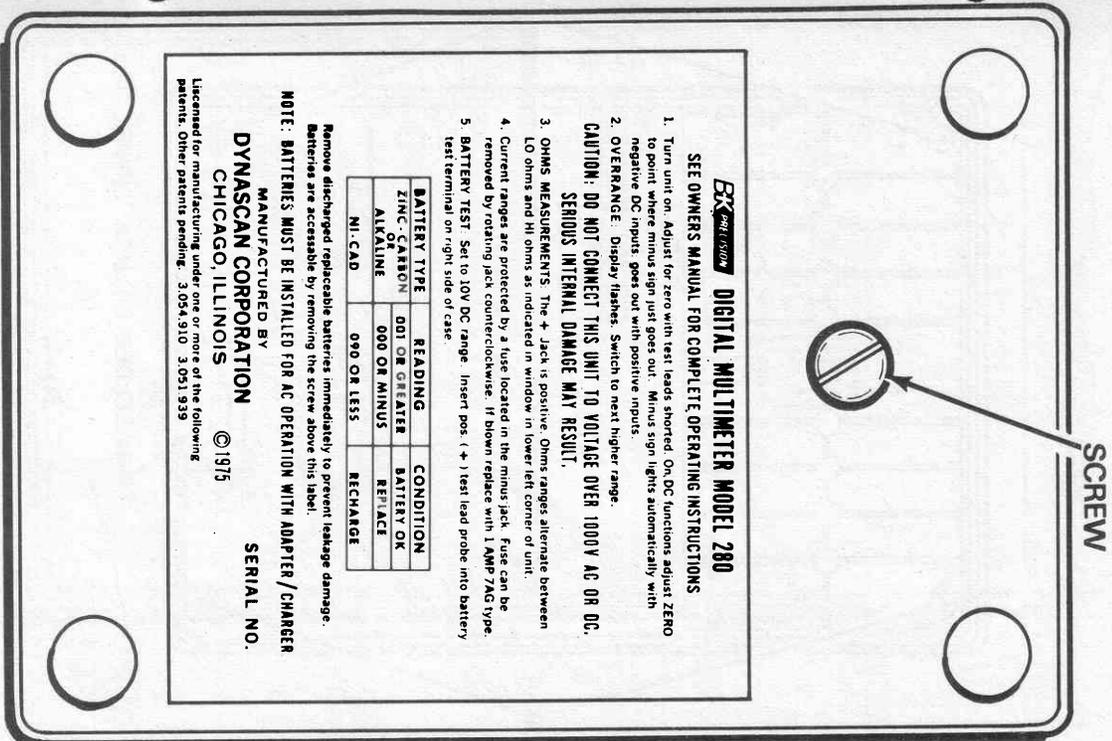
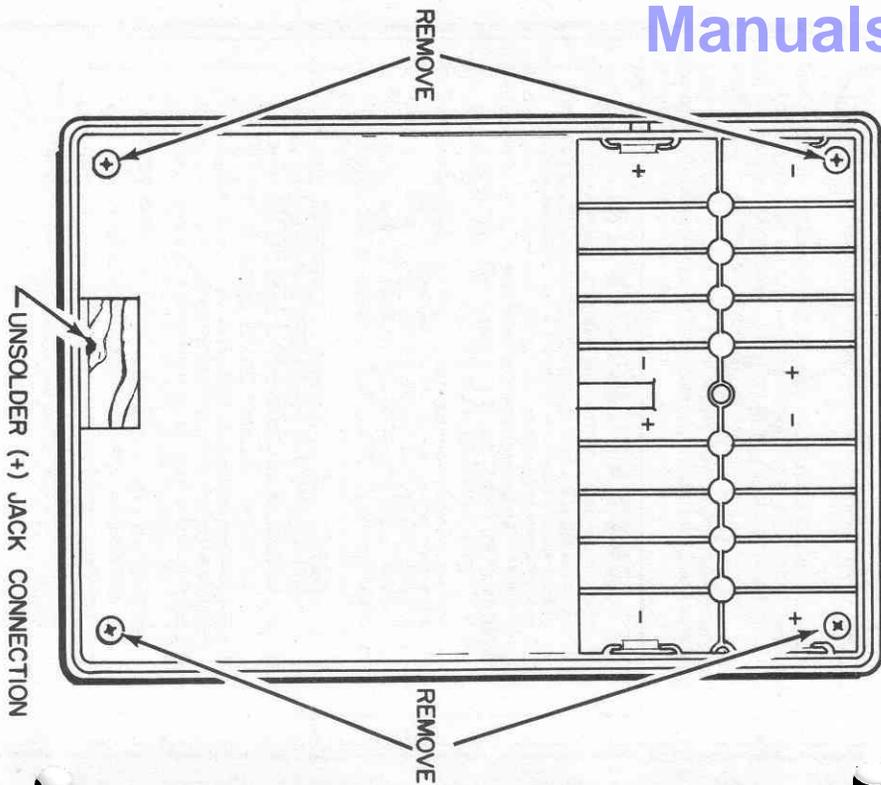

Fig. 3
Fig. 4.
- b. Replacement of batteries. Loosen the captive screw on the back cover (Fig. 3). Replace with "C" cells. Although carbon-zinc batteries can be used, alkaline or nickel cadmium (rechargeable) are recommended (see Maintenance Section for replacement battery type numbers). The battery polarity is marked in the battery holder. Replace cover and tighten screw.
The calibration is performed with the case open. To open the case, remove the battery cover by loosening the captive screw (see Fig. 3). Remove batteries and remove the four screws (Fig. 4). Unsolder the (+) jack from the edge of the P.C.B. as shown in Fig. 4. Solder a short wire to this point to serve as a temporary (+) input terminal during calibration. The top panel can now be removed from the main case, exposing the P.C. boards. Before proceeding, replace the batteries and the cover.
Loosen the captive screw in Fig. 3 and remove the back cover.
Procedure for R15 fusible resistor replacement (refer to Figs. 3, 4 and 5):